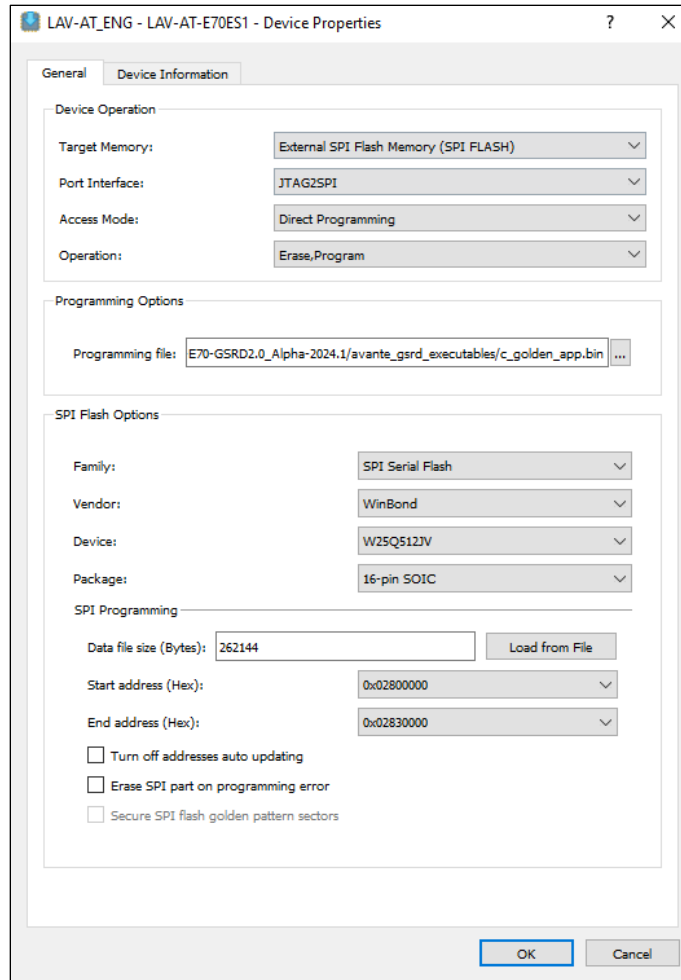

Figure 7.33. Device Properties settings to program the Golden Application
5. To program the **c_golden_app.bin** software file into the SPI Flash, follow the settings as shown in Figure 7.33.